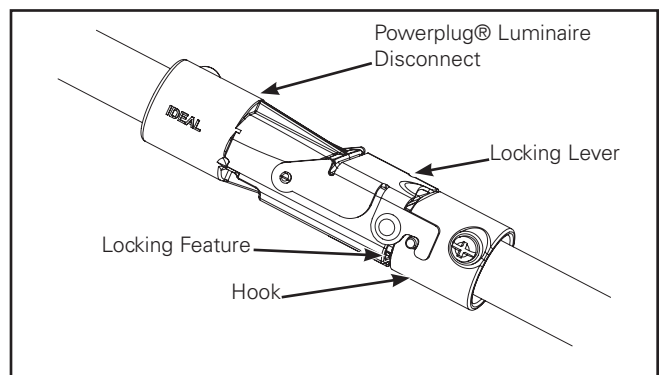

Figure 6.
3. Locking lever on quick disconnect must be latched as shown (Figure 6.).